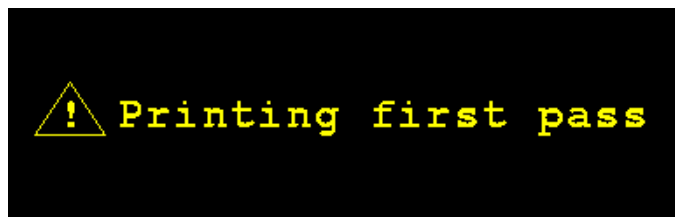

Figure 7: Printing a first pass ticket
4. When the maximum number of IDs/Trucks are entered or the print button is pressed, the 825 will display “Printing First Pass” (Figure 7) and will print a first pass ticket.